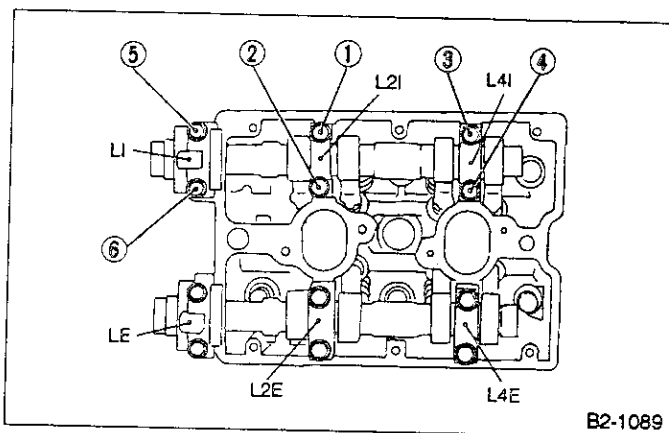

Fig. 59
- (2) Apply engine oil to cap bearing surface and install cap on camshaft as shown by identification mark.
- (3) Gradually tighten cap in at least two stages in the numerical order shown in Figure 59, and then tighten to specified torque.